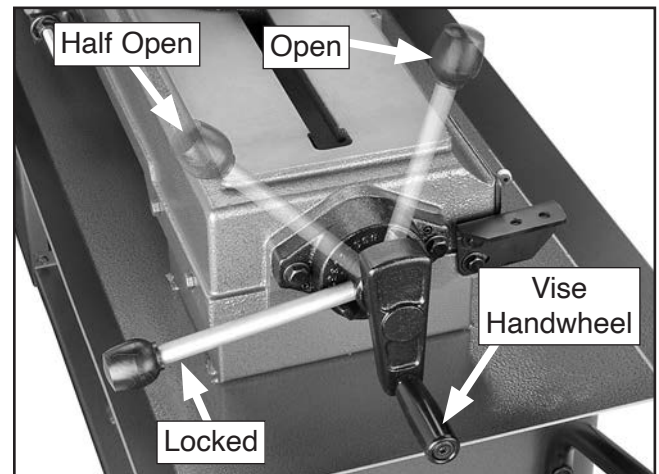

Figure 33. Example of positive lock handle positions and location of vise handwheel.
4. Move positive lock handle to half open position (see **Figure 33**).
5. Place workpiece against fixed vise jaw, then use vise handwheel to tighten movable vise jaw until it contacts workpiece (see **Figure 33**).